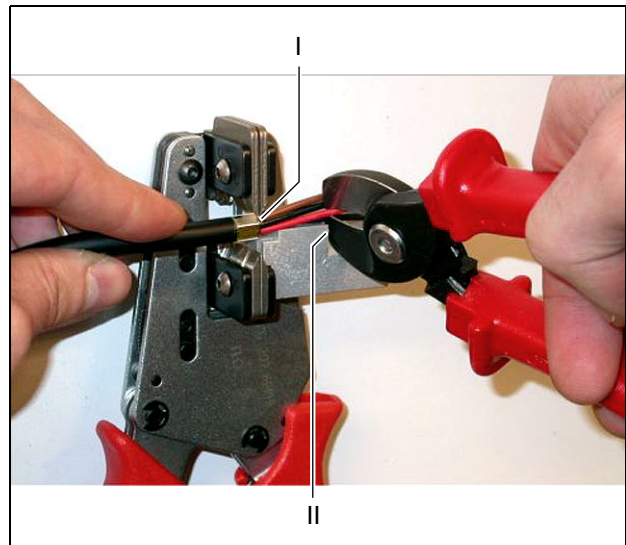

figure 29.10: Cutting a copper wire
- Cut the copper wires at the required length using the cable cutter (tool 2) and the stripping tool (tool 5). To this end, position the crimping bush in position I and cut the copper wires at position II (see figure 29.10).